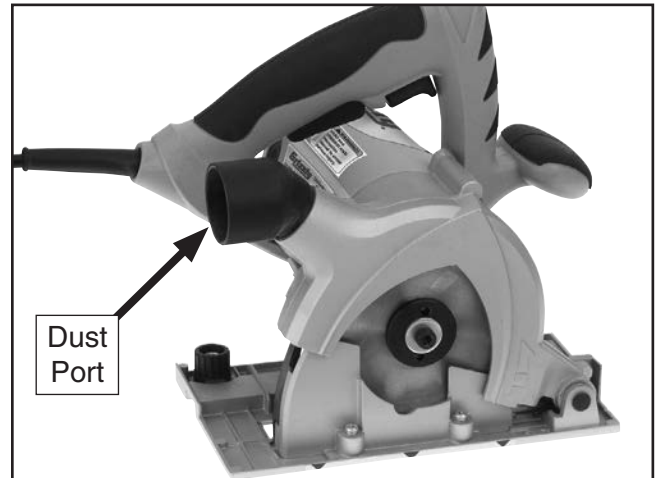

Figure 7. Dust port location.
1. Fit a 1½" dust collection hose or shop vacuum hose over the dust port (see **Figure 7**), and secure in place with a hose clamp.